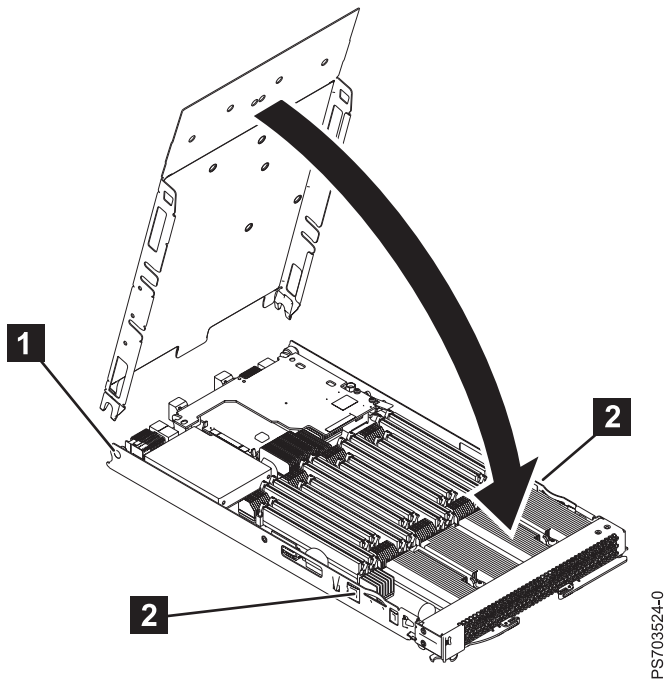

Figure 33. Installing the cover for a PS703 blade server
2. Lower the cover so that the slots at the rear slide down onto the pins (**1** in Figure 33 on page 44) at the rear of the blade server. Before you close the cover, verify that all components are installed and seated correctly and that you have not left loose tools or parts inside the blade server.